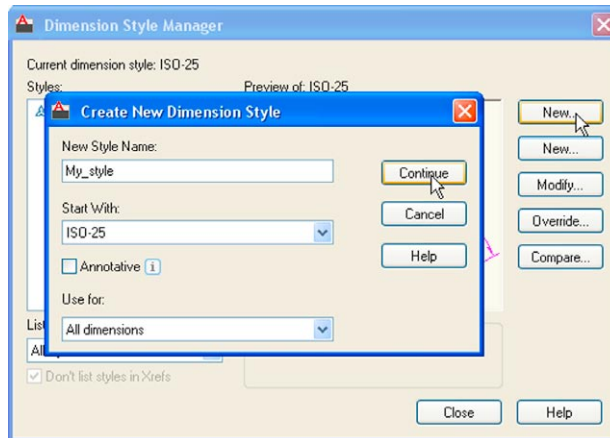

Fig. 4.13 The Create New Dimension Style dialog
8. The **Dimension Styles Manager** dialog reappears showing dimensions, as they will appear in a drawing, in the **Preview of my-style** box. *Click* the **New...** button. The **Create New Dimension Style** dialog appears (Fig. 4.13).